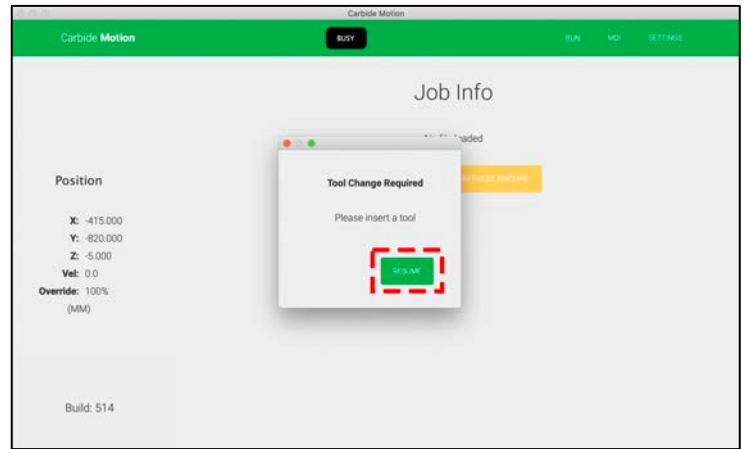

Figure 23
4. After the tool is inserted, click the **Resume** button in Carbide Motion. See *Fig. 23*.